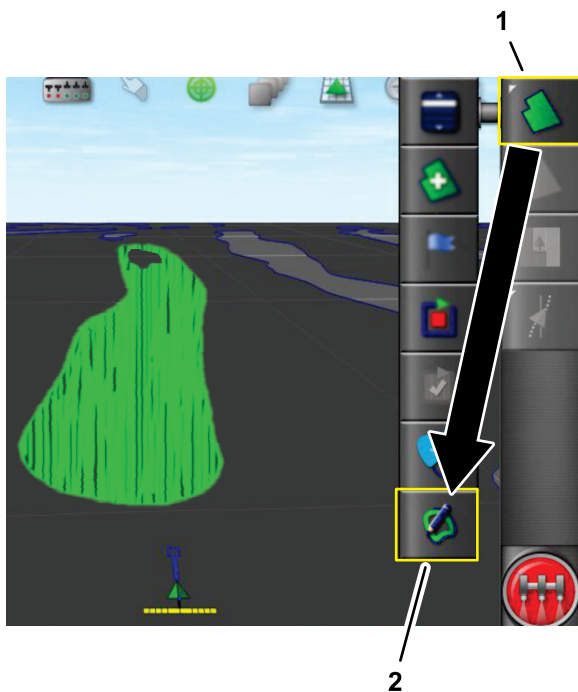

Figure 51
2. Press the Field icon and press Create Boundary from Coverage icon (Figure 51).